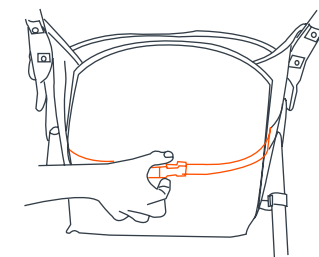
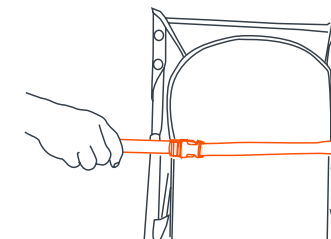

Fig. 15a
Fig. 15b
**15)** • The seat has a multiple position recline that is controlled by a strap and buckle assembly behind the seat (Fig. 15a). To recline the seat, loosen the strap through the buckle and adjust to the required recline position (Fig. 15b). To place the seat back in a more upright position, press upward on the seat back with one hand while pulling the strap through the buckle with the other. The strap will lock automatically.